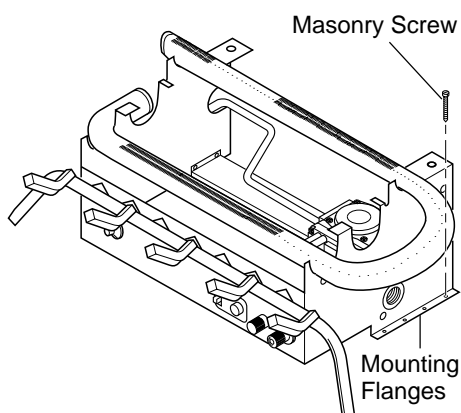

Figure 12 - Attaching Base Assembly to Fireplace Floor
7. Mark screw locations through one hole on each side of the mounting flanges (see Figure 12). If installing in a brick-bottom fireplace, mark screw locations in mortar joint of bricks.